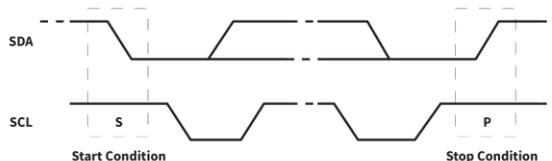

Figure 6.3 Definition of Start and Stop Conditions
Both data and clock lines remain high when the bus is not busy. A high-to-low transition of the data line while the clock is high is defined as the start condition (S). A low-to-high transition of the data line while the clock is high is defined as the stop condition (P) (see Figure 6.3).